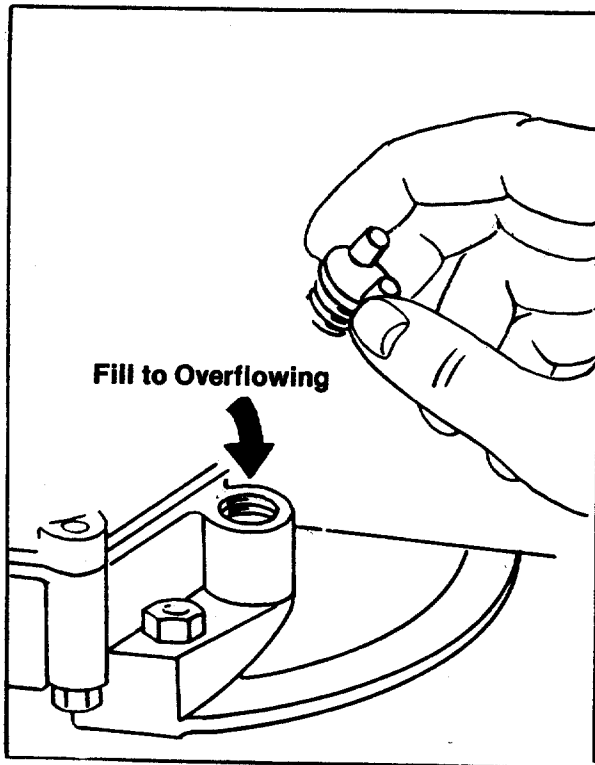

FIGURE 16. OIL FILL
Check the oil level in the crankcase before each use of the machine and after every two hours of operation. Keep the oil level to the overflowing point. See figure 16.
- Step 3. With the machine on level ground, remove the oil filler plug. See figure 16. Fill the crankcase until the oil overflows from the oil fill hole. Fill slowly to avoid air locks. The crankcase holds approximately 1 3/4 pints of good quality SAE 30 type MS engine oil. Replace the oil filler plug.